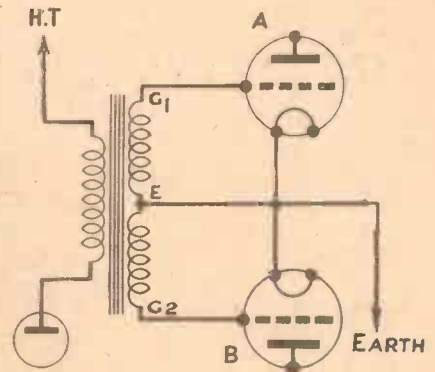
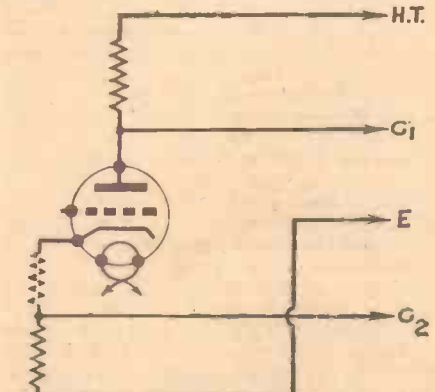
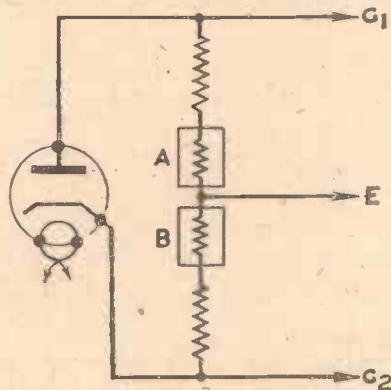
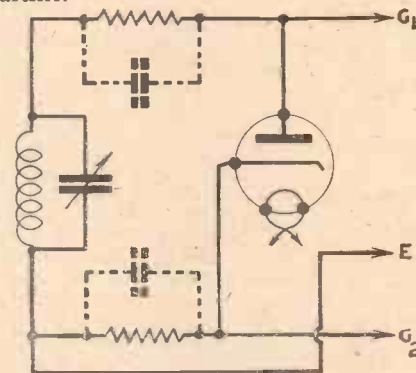

Fig. 1.—The simplest method of obtaining "push-pull" working, using a centre-tapped transformer.
Fig. 5.—Using a triode valve this scheme may be used in place of that shown in Fig. 4. Smaller circuit features are omitted for clarity.
Fig. 6.—The circuit of Fig. 5 re-drawn to show how the centre-tapped signal input is obtained. A and B are the battery and bias resistances.
Fig. 7.—An alternative scheme employing a diode detector for resistance-capacity coupling.
The simplest method of applying a signal of this nature to our two valves is to use an ordinary L.F. transformer in which the secondary winding has been tapped at the centre. This winding may thus be regarded as the resistance which was shown in Fig. 5 last week, and in Fig. 1 above, the two ends of the secondary (G1 and G2) are connected to the two grids, whilst the centre tap (E) is connected to earth or the cathodes (filaments in the case of battery valves). The signal which is induced from the primary winding in the ordinary way is thus present across the whole of the secondary winding, but the explanation given last week with regard to Fig. 5 now holds good, namely, the centre point will "tap off" one half of the total voltage, and thus, assuming that there is a total voltage across the secondary of 20 volts, only 10 volts will be applied between E and G1 and E and G2. (Incidentally this explains the value of a push-pull circuit for preventing overloading troubles, as the signal is split
G2, with the centre point at E as in the previous circuits. On the left of this diagram is a reproduction of the normal anode circuit when R.C. coupling is adopted, and it will be seen that a resistance is joined in the anode circuit. Now this could not be centre-tapped as it stands, as there would be nowhere to connect the tapping. It could not be joined to earth as it would earth the H.T. supply, and if the H.T. were applied to the centre point then there would be no signal voltage across the upper half of the resistance. It is obvious, therefore, that this resistance must be included in some part of the preceding valve circuit where the entire signal currents are passing through it, and where it is possible to take a centre tap back to the earth, cathode, or filaments, for all of the latter points are in effect identical and form the return path to the output valves. (Reference to Fig. 1 will show that each grid circuit is completed through the "load" resistance—or that component across which the signal voltage is developed—and back to the cathode or filament, whence the normal electron stream completes the circuit to the grid.)
mentioned, the centre tap may be joined to earth (H.T.—) and the ends of the resistance taken to the two grids of the output valves. Thus, the arrangement is identical with our fundamental circuit, Fig. 5 shown last week. As the anode and cathode of a normal valve are at opposite potential, it is also possible to obtain the two separate signals by utilising a resistance in the anode circuit and a similar resistance in the cathode circuit
as shown in Fig. 5. It should be noted, however, that the bias for the valve is obtained by the usual resistance in the cathode lead, and although this may be very small it introduces a modification of the balance and thus destroys part of the valuable circuit gain of the true push-pull circuit. In case the valve in Fig. 5 confuses the circuit for the beginner, it may be re-drawn in the form shown in Fig. 6, where it will be seen that the signal is present across the valve, and as H.T. positive and H.T. negative may be considered as a junction between the ends of the resistances (for H.T.— is joined to earth, and the resistance of the H.T. supply is, or should be, practically negligible) the original circuit is obtained. One other scheme is shown in Fig. 7, where the diode is again employed, and the output for the two valves is also taken from cathode and anode, with the tuned circuit (across which the signal is developed) joined to these two points through load resistances, or a split single load resistance.
In view of the fact that it has already been shown that the signal should be at a phase difference of exactly 180 degrees in order to obtain the full advantage of push-pull amplification, it will be obvious that only in Fig. 1 (with a good com-